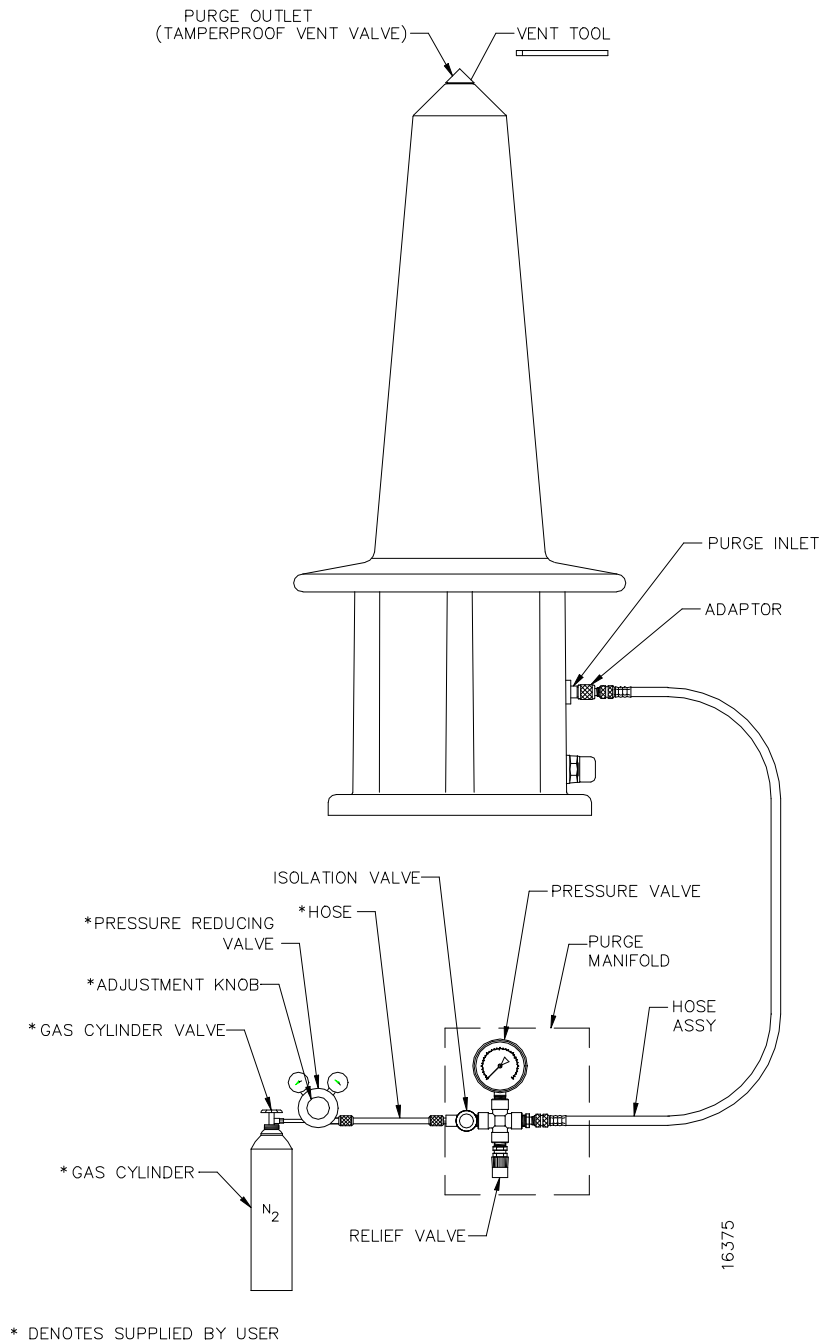

Figure 3.1 Racon Purging Operation
1. Assemble the purge kit components, the pressure reducing valve, and the gas cylinder as shown in Figure 3.1. Do not connect the manifold outlet hose to the adaptor fitting at this time.